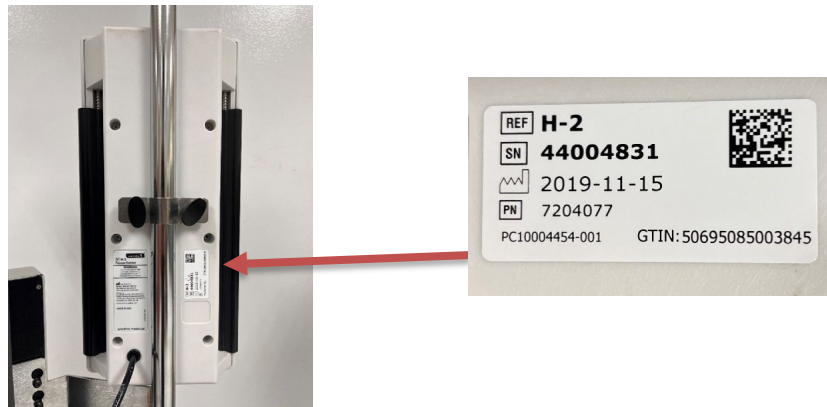

Figure 1: Location of Serial Number on H-2 Pressure Chamber
- a. Identify the Level 1 H-2 Pressure Chamber serial number (SN). Refer to Figure 1 below for the location of the device SN.